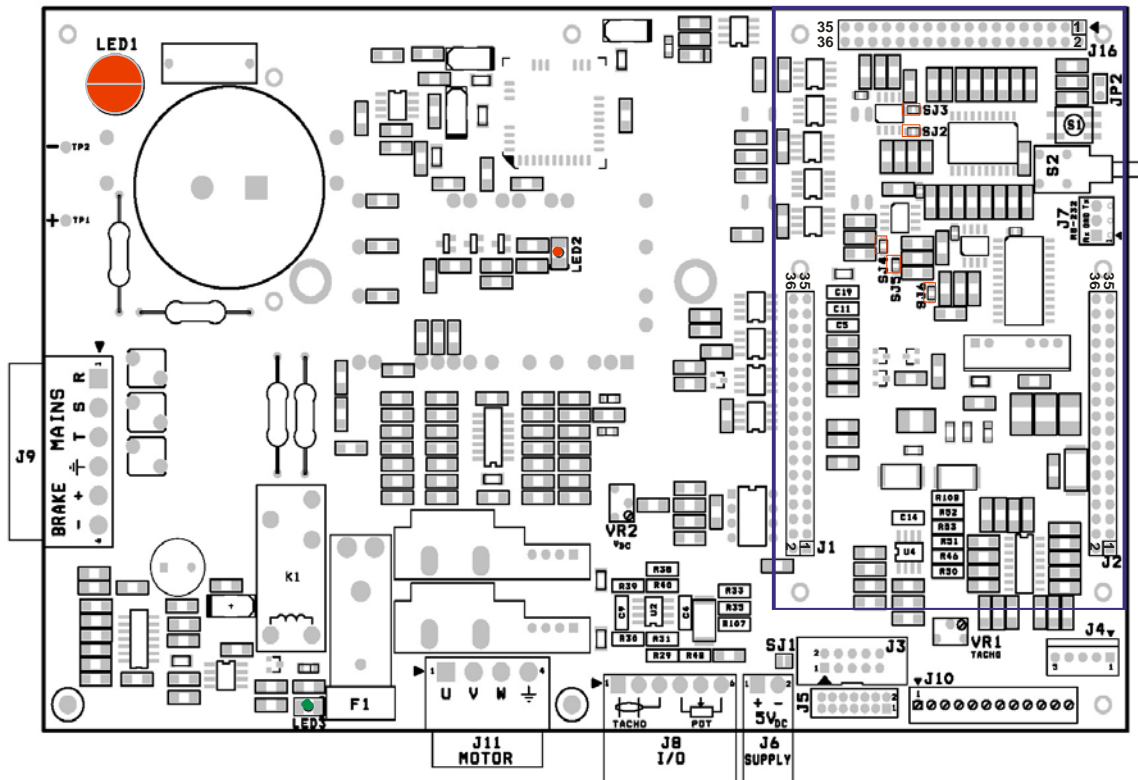

Figure 2.6. Improving accuracy - the components to be modified
4. Remove the DSP board. Replace R29, R30, R33 and R35 (see **Figure 2.6**) with resistors having the new values computed above. Also replace R38 = R29 and R39 = R30 resistors which correspond to the phase-B current measurement circuit. Note that the reference voltage given by R33 and R35 + R107 is common to both current measurement circuits.